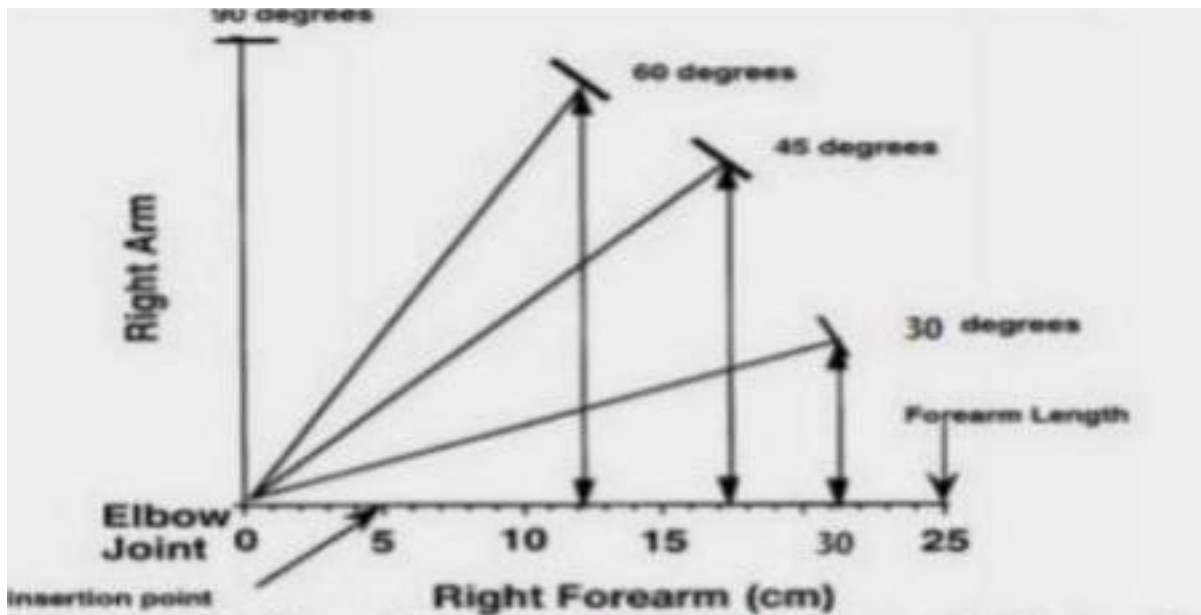

Fig 2: Example of how forearm length is plotted at each joint angle.
- 1.Measure the length of each subject's right forearm (RA) in centimeters.
- 2.Plot the right forearm length on the x-axis of Fig. 2 (this length represents the RA). The y-axis represents the right arm. (Remember that the arm is the region from the shoulder to the elbow, and the forearm is from the elbow to the wrist). Fig. 2 illustrates how the forearm length is plotted on the graph.
- 4.Use a protractor to mark the angles O, 30, 45, 60, and 90' on Fig. 2. Line up the protractor with the y-axis so that O' is at the x-axis and 90' is at the y-axis. Use a ruler and draw lines the length of the right forearm from the xy intercept through each angle. All five lines should be the same length.
- 6.Using the protractor, draw perpendicular lines from the endpoints of the five lines drawn through each angle. The distance on the x-axis from the joint (x-y intercept = O) to the perpendicular line represents the resistance arm (RA).
7. With the aid of a protractor, draw perpendicular lines from the muscle insertion to the x-axis. The line from the insertion point should intersect the x-axis at a right angle. The distance on the x-axis from the joint (x-y intercept = O) to the perpendicular line represents the moment arm (MA).
9. Compute the moment of force (M) the subject requires to hold the weight at each angle. For the resistance (R), use the values entered in the first column of Table 1. Insert the value calculated for the moment of force in Table 2.